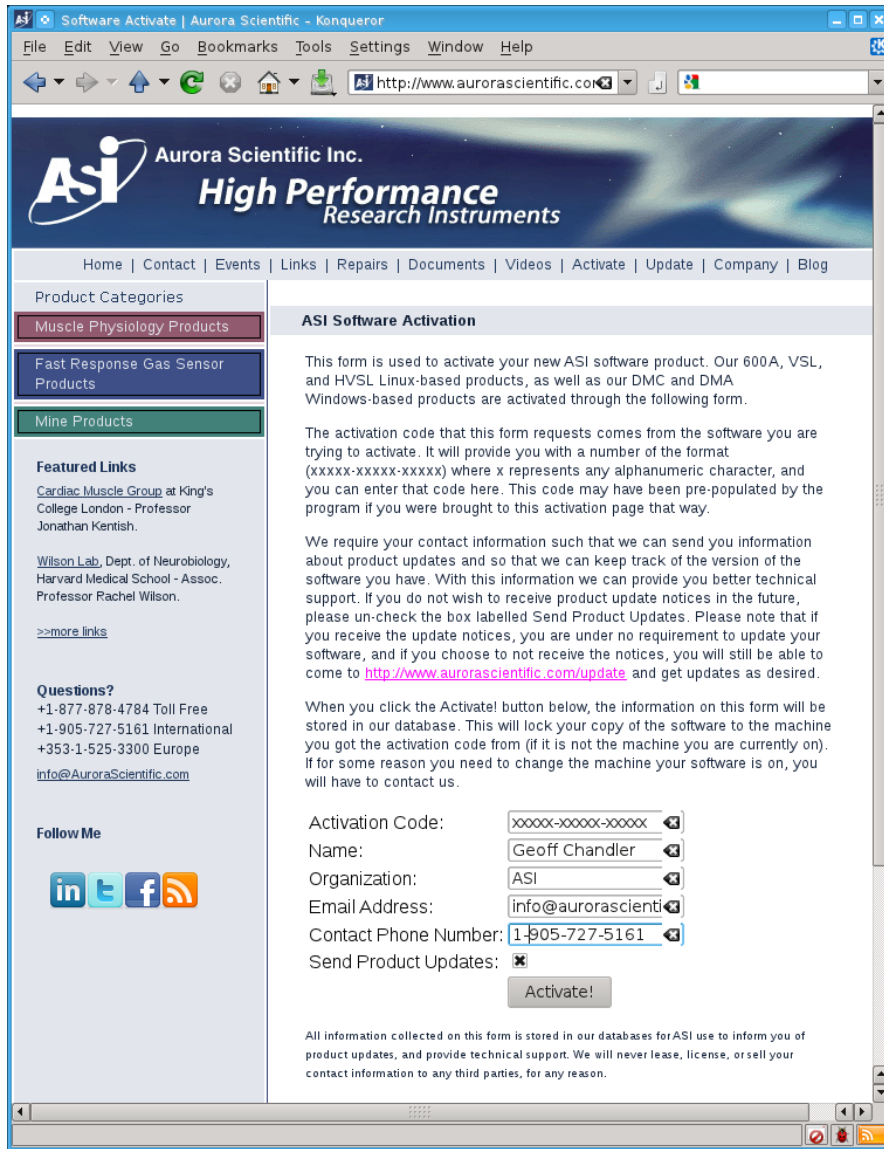

Figure 1 ASI Product Activation Website
3. Enter the Activation Code returned by the program, your contact details and then click on the Activate! Button, see Figure 1.